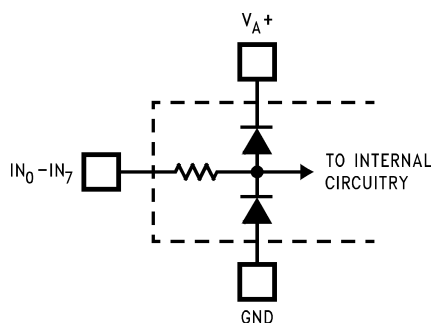

Figure 3.
- (1) Two on-chip diodes are tied to each analog input through a series resistor, as shown below. Input voltage magnitude up to 5V above V_{A+} or 5V below GND will not damage the LM12L458. However, errors in the A/D conversion can occur if these diodes are forward biased by more than 100 mV. As an example, if V_{A+} is 3.0 V_{DC} , full-scale input voltage must be $\approx 3.1 V_{DC}$ to ensure accurate conversions. See Figure 3
- (2) V_{A+} and V_{D+} must be connected together to the same power supply voltage and bypassed with separate capacitors at each V^+ pin to assure conversion/comparison accuracy.
- (3) Accuracy is ensured when operating at $f_{CLK} = 6\text{ MHz}$.
- (4) With the test condition for $V_{REF} = V_{REF+} - V_{REF-}$ given as +2.5V, the 12-bit LSB is 305 μV and the 8-bit/"Watchdog" LSB is 4.88 mV.
- (5) Typical figures are at $T_A = 25^\circ C$ and represent most likely parametric norm.
- (6) Limits are specified to AOQL (Average Output Quality Level).
- (4) Typical figures are at $T_A = 25^\circ\text{C}$ and represent most likely parametric norm.
- (5) Limits are specified to AOQL (Average Output Quality Level).
- (3) Accuracy is ensured when operating at $f_{CLK} = 6 \text{ MHz}$.
- (4) Typical figures are at $T_A = 25^{\circ}C$ and represent most likely parametric norm.